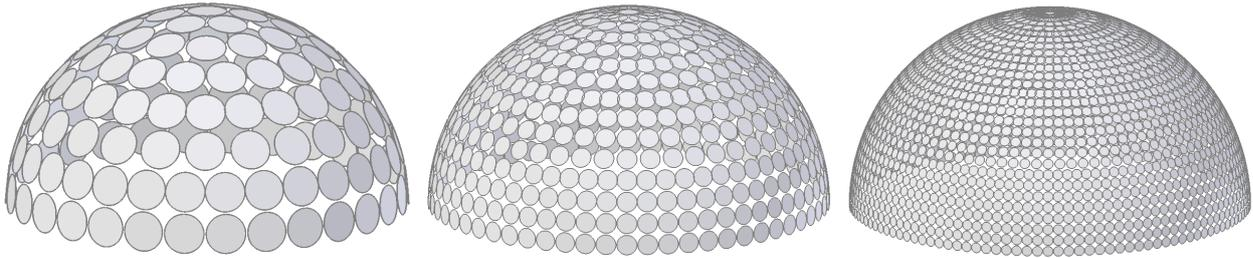

Figure 22: Sky View Patches (Tregenza, Reinhart 577, Reinhart 2305)
- Sky patches - this controls the resolution of the sky patches for the view factor analysis (figure 22)